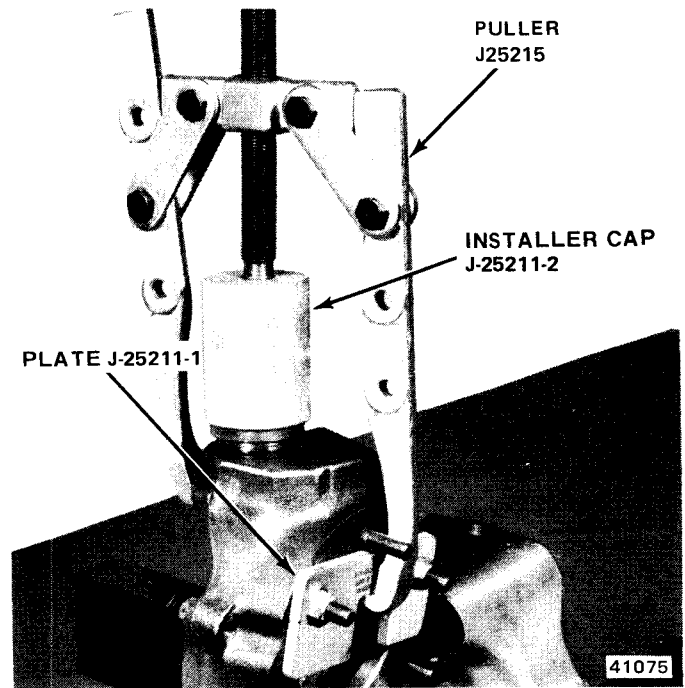

Fig. 10-10 Upper Ball Stud Installation
(6) Position upper ball stud on knuckle. Use Installer Cup J-25211-2 and Puller J-25215 to press in upper ball stud (fig. 10-10).